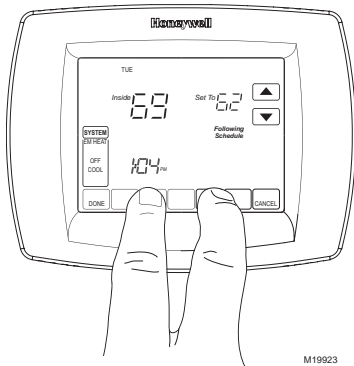

Fig. 22. Entering Installer Setup.
3. Five blank touch keys show on the bottom of the screen between the Done and Cancel keys. Press and hold the two blank keys on either side of the center blank key for approximately five seconds until screen changes. See Fig. 22.
The Installer Test is part of the Installer Setup options. Entering the Installer Setup screen and pressing the down arrow key to bring up the test selection(s) accesses it quickly. See Fig. 22.